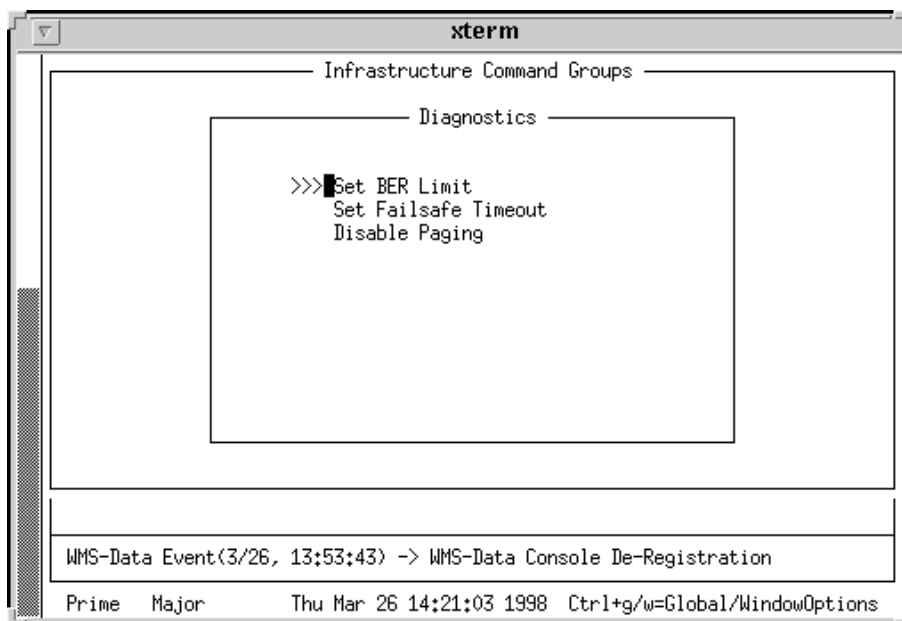

Figure 5-17: Diagnostics Screen—Set BER Limit
1. From the Diagnostic menu, use the <tab> to position the cursor to the left of the listing Set BER Limit and press: <Return> (see Figure 5-17).